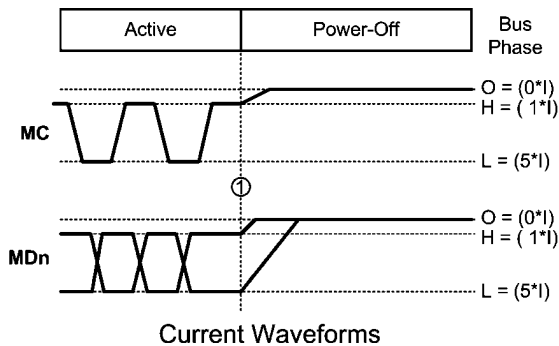

FIGURE 10. Bus Power Down Timing
**Note 8:** Guaranteed functionally by the  $I_{\text{DDZ}}$  parameter. See also Figure 10.
In the OFF phase, MPL transmitters are turned off with zero current flowing on the MC and MDn lines. *Figure 10* shows the transition of the MPL bus into the OFF phase. If an MPL line is driven to a logical Low (high current) when the OFF phase is entered it may temporarily pass through as a logical High (low current) before reaching the zero line current state. The link may be powered down by asserting both the SER's and DES's PD\* input pins (Low) or by stopping the PCLK (DES dependant). This causes the devices to immediately put the link to the OFF Phase and internally enter a low power state.